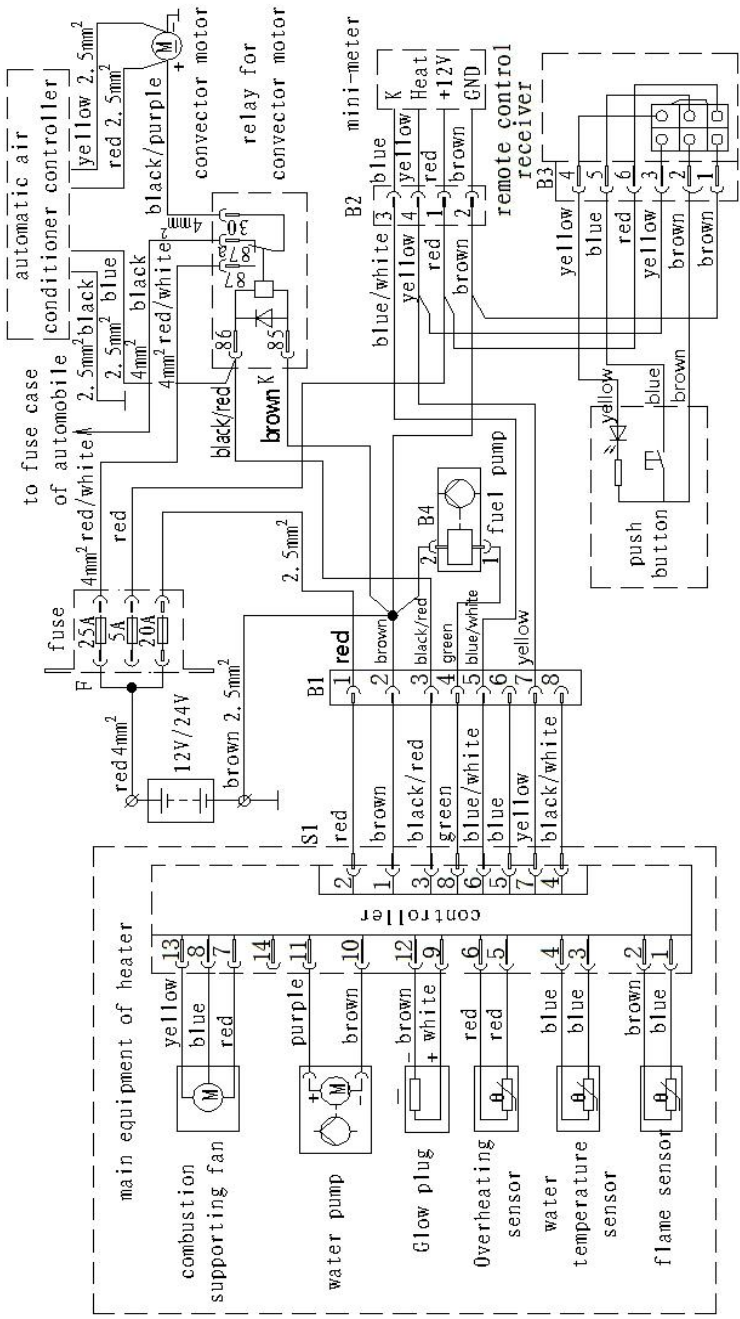
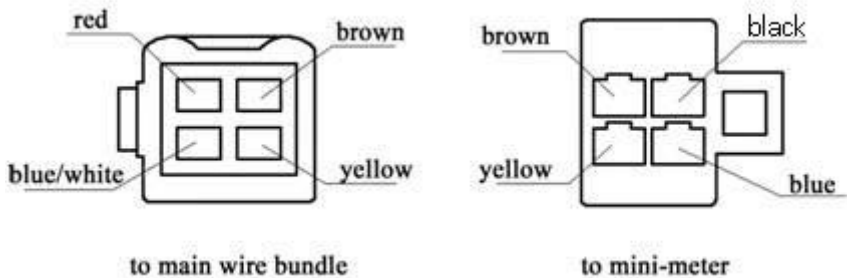

Fig.11
Fig. 12
The wiring diagram for the heater (using DC 12V as example) in Fig. 11.
4.6.5 For those components whose connecting wires may need to go through small holes (such as mini-meter and remote control receiver), you need to pass the wires through the holes before the connection is made to the connector. For such reason, the terminals of these components are not plugged in the sockets in the factory. You have to plug in the terminals according to Fig. 11. You have to keep correct relations for them. Connector for the remote control receiver: Plug connection shall be made according to wire color and serial number of terminals on the sockets. Connector for the mini-meter: Plug connection shall be made according to Fig. 12.